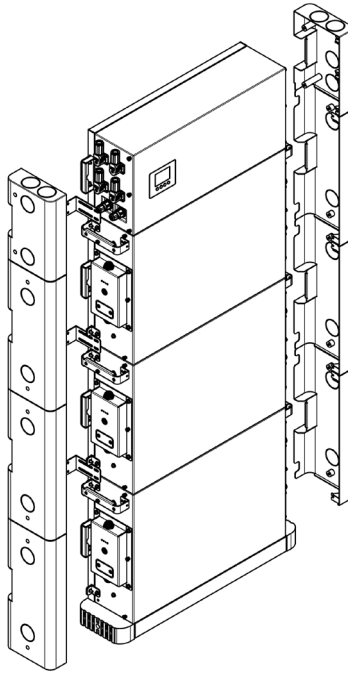

Figure 12: Side Panel Installation Diagram
4. Attach the side panels to each battery module and use the included screws to tighten and secure them, as shown in Figure 12 below.